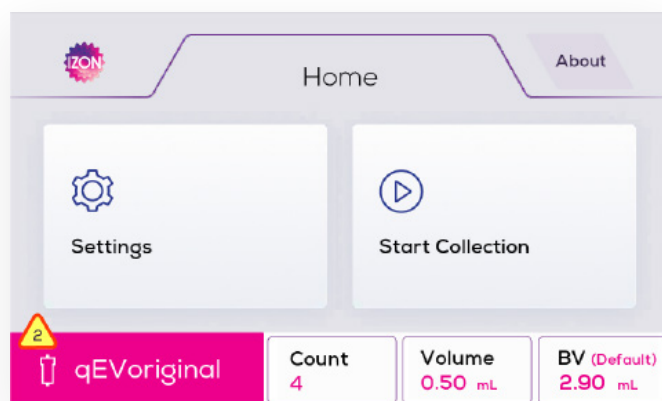
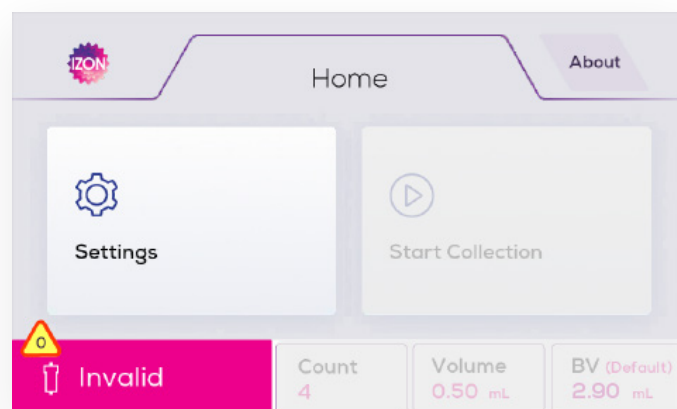

Figure 12: A warning indicator shows how many uses a column has left after the recommended uses have been exceeded.
Figure 13: The home screen displaying when a column is invalid.
A warning indicator will be displayed when the recommended number of uses (5) has been exceeded, as shown in Figure 12. After 5 uses, the warning indicator will appear and a countdown from 5 to 0 uses will commence. The AFC will display "invalid column" when it has been used a total of 10 times, as shown in Figure 13.